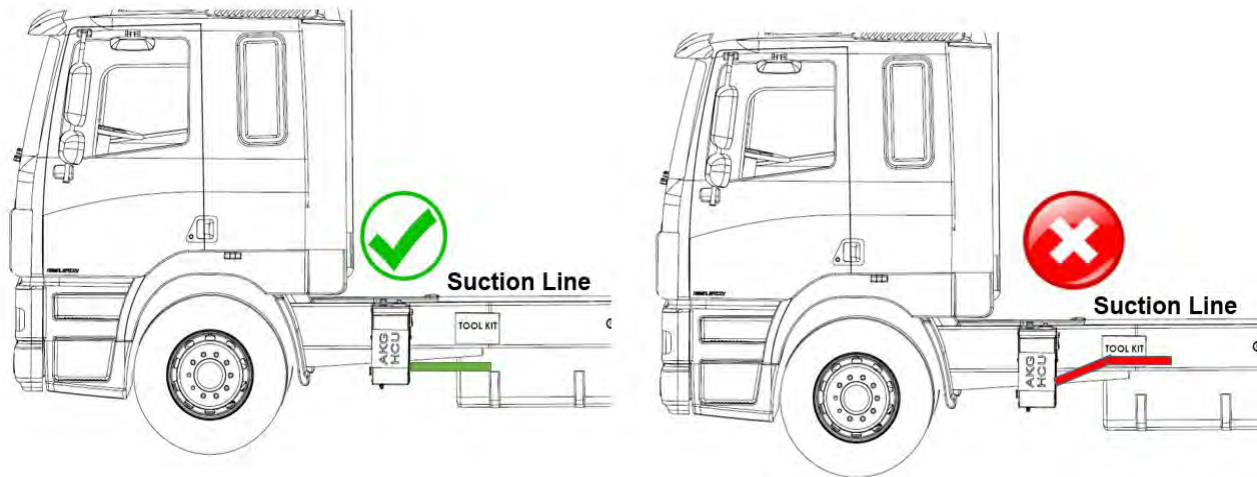

Figure 2B Suction Line Rise
2. The HCU should be mounted at a rise (above the suction line) to avoid cavitation in the pump and where pressure drop is minimum. Please refer to figure 2B.